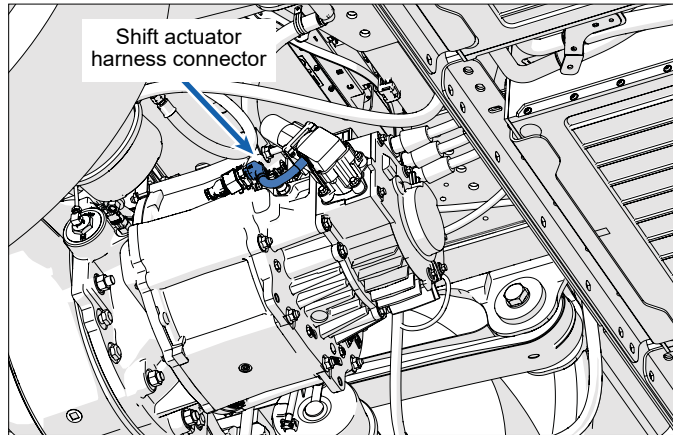

Figure 6 - Shift actuator removal
3. Remove the shift actuator from the transmission case (**Figure 6**) and store it in a safe location.